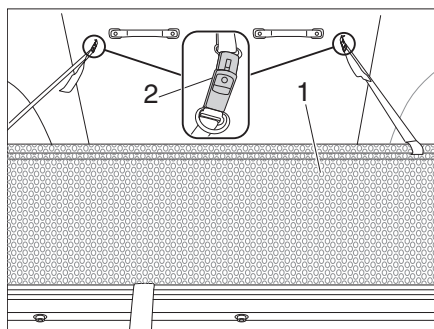

Fig. 8 Falling-out protection
- Pull the safety guard (Fig. 8,1) out from under the mattress.
- Secure the safety guard to the pop-up roof with the strap buckle (Fig. 8,2).
- Releasing the strap buckle (Fig. 8,2).
- Stow the safety guard (Fig. 8,1) under the mattress.